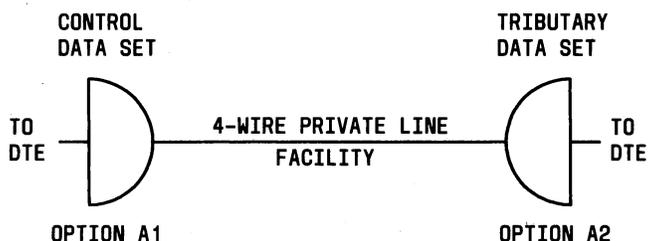

Fig. 28—Example of Category A Point-to-Point Service Options
3.122 **Point-to-Point Control (A1):** This option enables a point-to-point control data set with full test and command menus. This data set can then identify its tributary data set(s) and display system status on the front panel. This application is illustrated in Fig. 28.
are enabled and only local testing is allowed. Refer to Fig. 28.